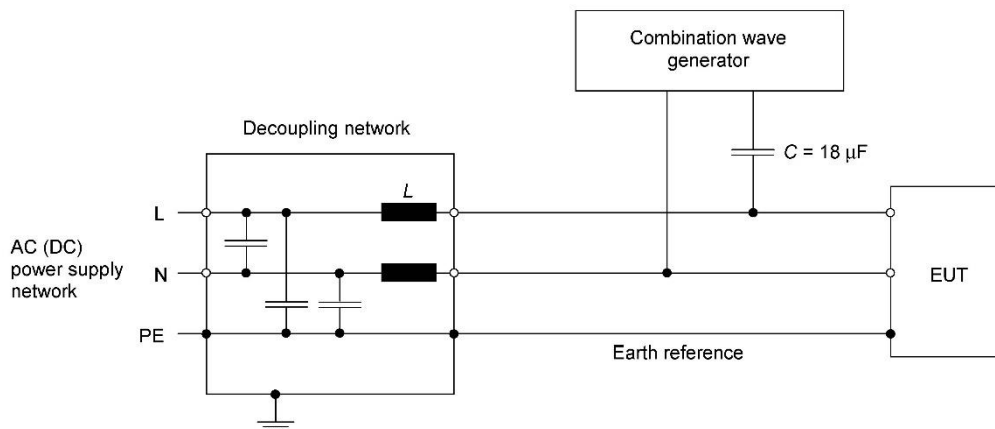

Figure 7 – Example of test setup for capacitive coupling on a.c./d.c. lines; line-to-line coupling (according to 7.2)
- The MegaPulse CDN 240/8 is designed to allow surge testing to be conducted on the mains line of operating equipment. The CDN is designed to EN 61000-4-5 Figure 7 and protects the attached Surge Tester outputs from line voltage, and the mains voltage generator from the Surge Tester outputs.
The MegaPulse CDN 240/8 is constructed to the specifications of EN 61000-4-5 Figure 7. Some circuit values are not specified in this Standard and the manufacturer has chosen values for good general operation. However, special instances or test procedures unknown to the manufacturer may yield unacceptable shielding of the line generator from the output of the MegaPulse Surge Tester connected to the **INPUT** jacks of the MegaPulse CDN 240/8. We strongly recommend that the mains source of supply not be a device with outputs coupled to FETs or similar. Perhaps a transformer and a variac for AC sources; and a battery for DC sources would be best.
- The CDN 240/8 was constructed to the specifications of EN 61000-4-5 Figure 7 as shown below.